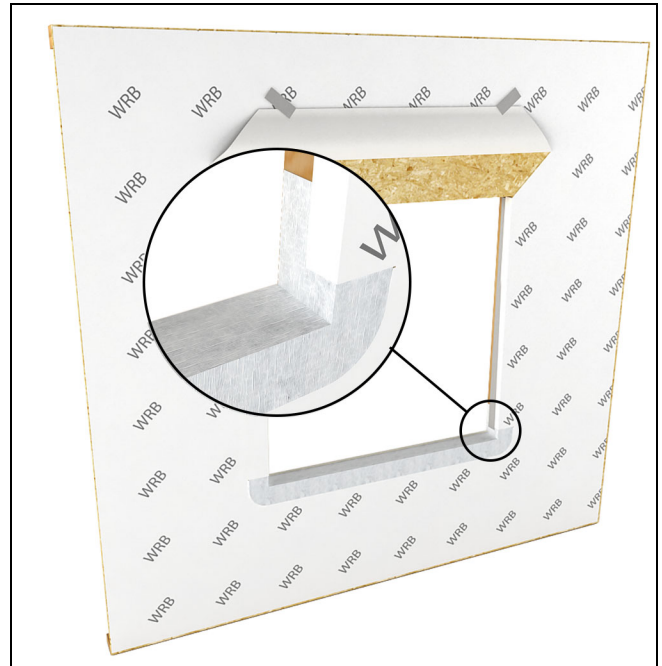

Figure 10
6. Wrap side flaps to the interior and staple in place about 1 1/2" (38) from the interior edge of the opening. Cut the excess off near the staple so that a 1" - 1 1/2" (25-38) strip of bare wood is exposed. Tape this edge with seam seal tape. See Figure 10.